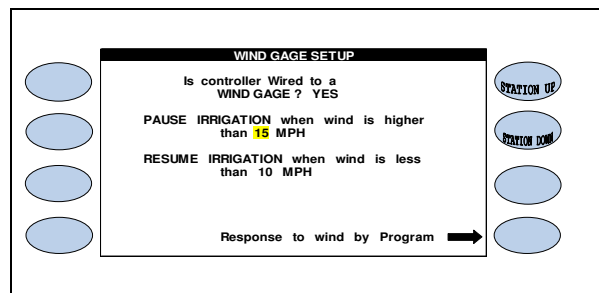

Figure 5
6.  Press the **PLUS** or **MINUS** keys (Figure 5).